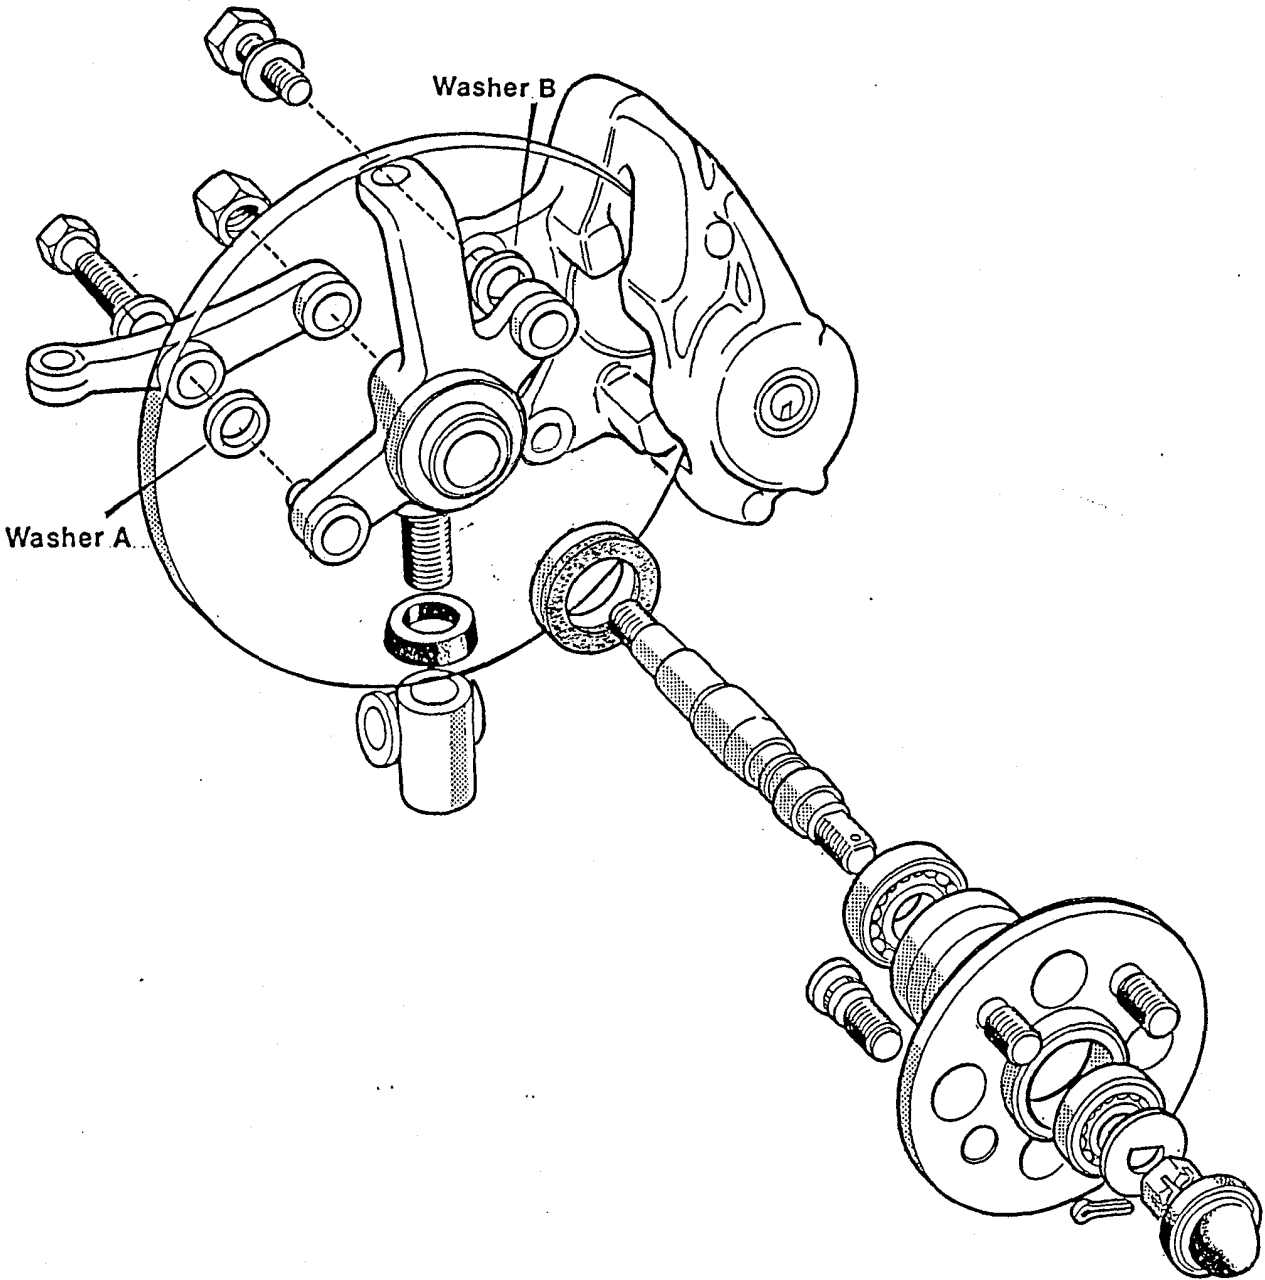

Fig. 4.4.1
4.1 Degrease one of the stub axles, which are not handed, using petrol or thinners and insert into upright as shown in figure 4.4.1.
5.1 Insert wheel studs into hub casting as illustrated in figure 4.4.1. These can either be lightly tapped into position with a small hammer or pulled into position using a wheel nut and a suitable plain washer to avoid damaging the hub face. On later kits, these may already have been fitted.
either case the bleed nipple and flexible pipe input should be uppermost. These are secured using 7/16" x 1¹/₄" bolts which should be torqued up to 40-45 lb ft, with the pink spacing washers between the caliper and upright (see Fig.4.4.1. washer B) in order that the caliper is positioned correctly relative to the disc with equal spacing on each side. It is very important that you check that the four bolts holding the two halves of the caliper itself together are correctly tightened to 30 lb ft.